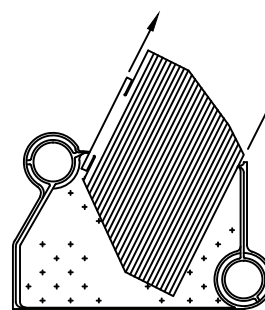

Figure 47: Boiler Flueway Cleaning
8. Check burners to be sure they do not contain foreign matter or restrictions. Clean burners with a soft bristle brush, blow any dirt out with compressed air or use a vacuum cleaner. See Figure 47.
- E. Clean Boiler Flueways.** See Figure 47.
5. Remove flue baffles. Refer to Figure 47 for instructions on how to remove baffles from flueways. Remove any accumulated scale or soot.
6. Thoroughly clean flueways with flue brush, removing all scale and soot. See Figure 47.
8. Reinsert baffles into flueways by reversing steps given in Figure 47. Tabs at top of each baffle should rest on top of flue pins.